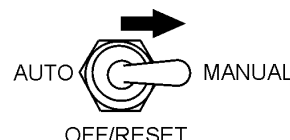

Figure 39. Auto-Off/Reset Manual Switch (Manual Position)
2. Place the **Auto-Off/Reset Manual Switch** in the **MANUAL** position to start the engine (Figure 39).